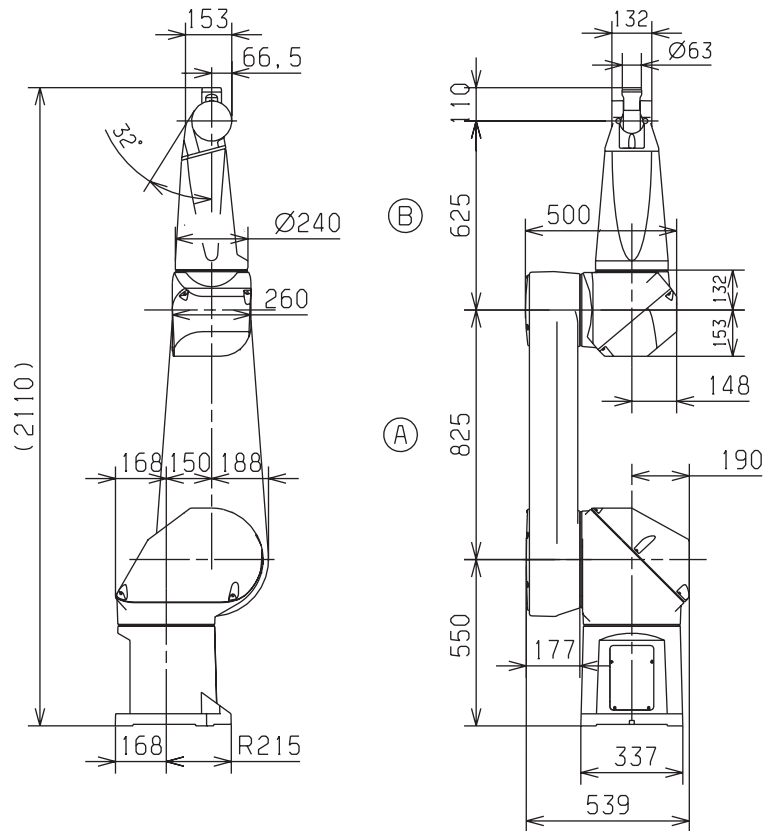

Figure 1.2 (RX160)
- (1) RX family arm
- (2) Maximum reach between joints 2 and 5 expressed in decimeters:
- dimension (A) + dimension (B) **(figure 1.2).**
Standard arm: for arm with standard geometry **(figure 1.2).**
1.3.1. OVERALL DIMENSIONS (figures 1.2 and 1.3)